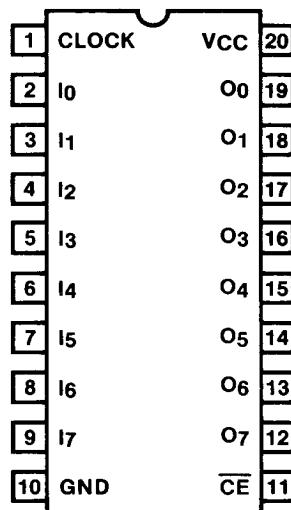

Figure 2-5. Pin Identification
- After the selected inputs, I₀ through I₇ (Figure 2-5), and V_{CC} at 4.5 to 5.0 V, have been stable for T₁, raise the "Enable" (pin 11) to V_{EP}. (See Table 2-20.)
- Should the output not verify, repeat steps 2 through 8 up to five (5) times.